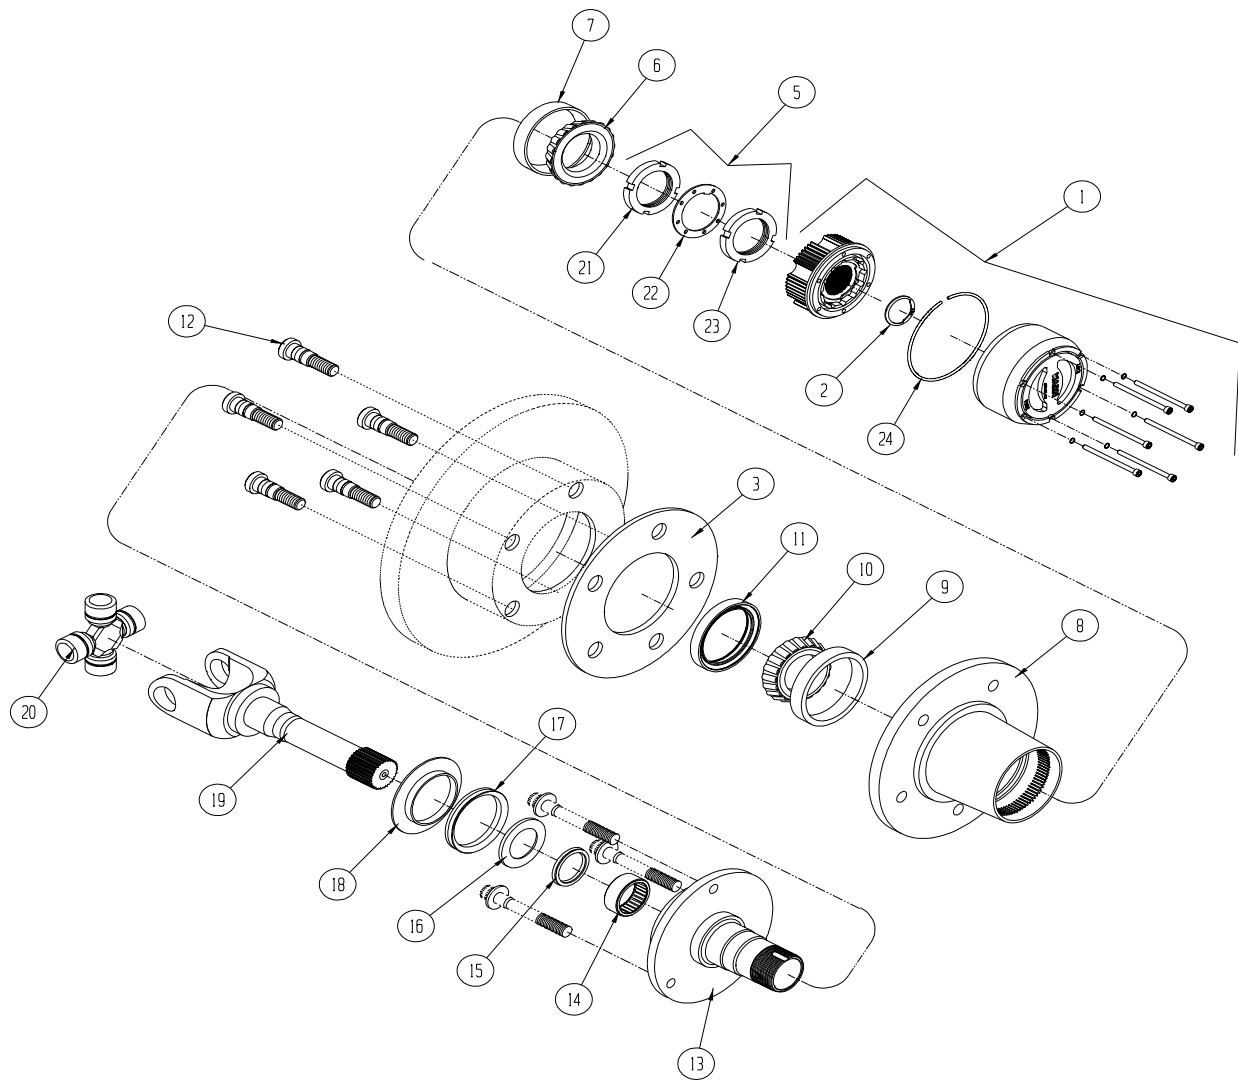

Figure 3. Front axle wheel hub conversion kit. Parts not included in kit are drawn with dashed lines
This sheet provides guidelines to install the WARN Front Wheel Hub Conversion Kit (Figure 3). There are NOTES, CAUTIONS, and WARNINGS which should be followed during installation to avoid possibility of personal injury or damage to the vehicle. During installation, standard safety precautions and equipment should be used where appropriate. Because the skill and experience of the installer and the tools used can vary widely, it is impossible to anticipate all conditions under which this installation is made or to provide cautions for all possible hazards. If your installation varies from the instruction, you must be completely satisfied that your safety or the operation of the vehicle will not be compromised.
PARTS LIST (included in kit) (Refer to Figure 3 for Item #)
13. Place thrust washer I.D. chamfer side towards Yoke. See Figure 3, Flag 16.
14. Place V-seal (thick side towards yoke) on axle shaft. See Figure 3, Flag 17.
NOTE: Put grease in counter bore. Be sure that factory installed spindle seal is placed cup side, facing away from needle bearing. This seal is held in by grease only. See figure 3, Flag 15.
1. Inspect inside of wheel hub and clean if necessary. (See Figure 3, Flag 8.)
3. Thread inner nut (See Figure 3, Flag 21) on to spindle.
- See Figure 3, Flag 22.
- Thread outer nut on spindle. See Figure 3, Flag 23.
- Separate body and cap assembly. (Figure 3, Flag 1)
- Push hublock body into wheel hub (Figure 3, Flag 8) so lock ring groove in wheel hub is visible.
- Install large lock ring (Figure 3, Flag 24) into wheel hub groove.
- Using snap ring pliers, install axle retaining ring. (Figure 3, Flag 2)
NOTE: Dial hub lock cap (Figure 3, Flag 1) to FREE position
8. Align holes on cap using one socket head cap screw (Figure 3, Flag 1) as pilot.